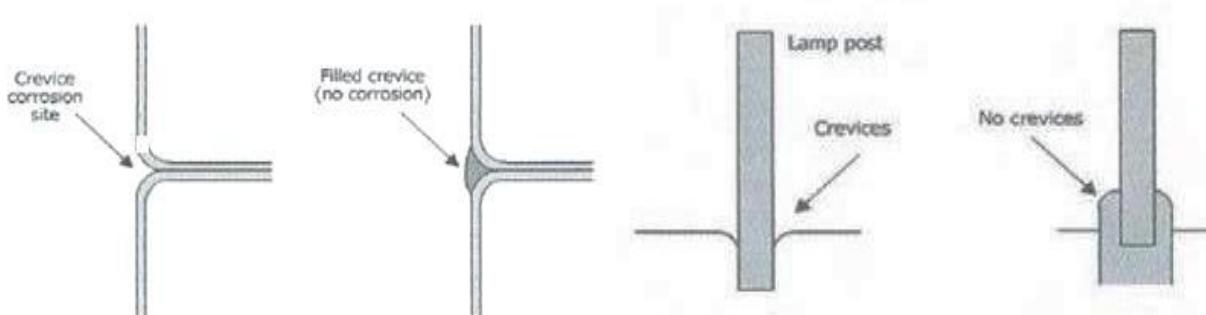

Figure 13: Improved designs to minimize crevice corrosion
b) Avoid crevices: Crevices allow moisture and dirt to be trapped which result in increased corrosion. If crevices are either present in a structural or cannot be avoided they should be filled by welding or by using filler. (Figure 13)